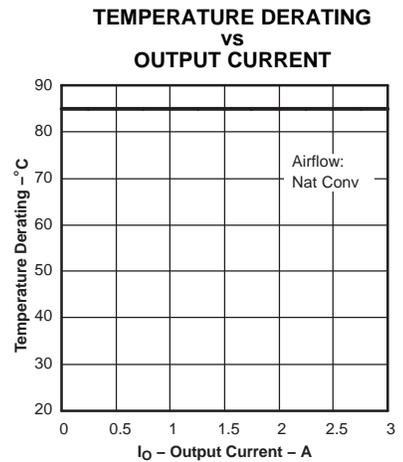

Figure 8.
- (2) The temperature derating curves represent the conditions at which internal components are at or below the manufacturer's maximum operating temperatures. Derating limits apply to modules soldered directly to a 100 mm × 100 mm double-sided PCB with 1 oz. copper. Applies to Figure 8.